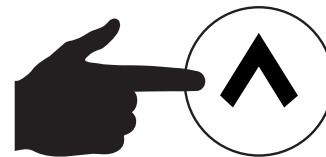

Figure 62. Page Up Button
11. On the touch display, press the **Page Up button** (Figure 62) to scroll to **screen 4 of 7**.